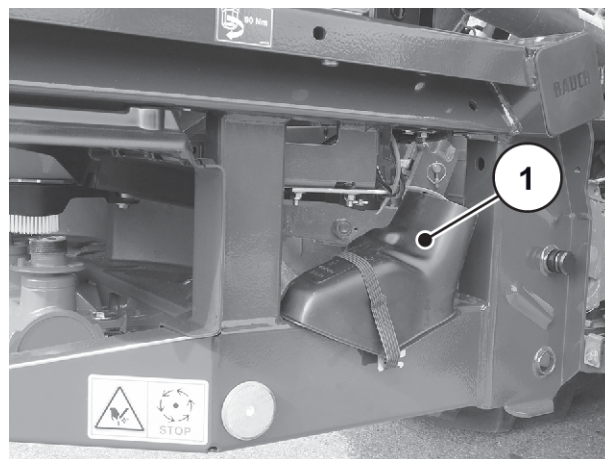

Fig. 33: Position of the calibration test chute
- Prepare the calibration test chute. See *Fig. 33 Position of the calibration test chute*